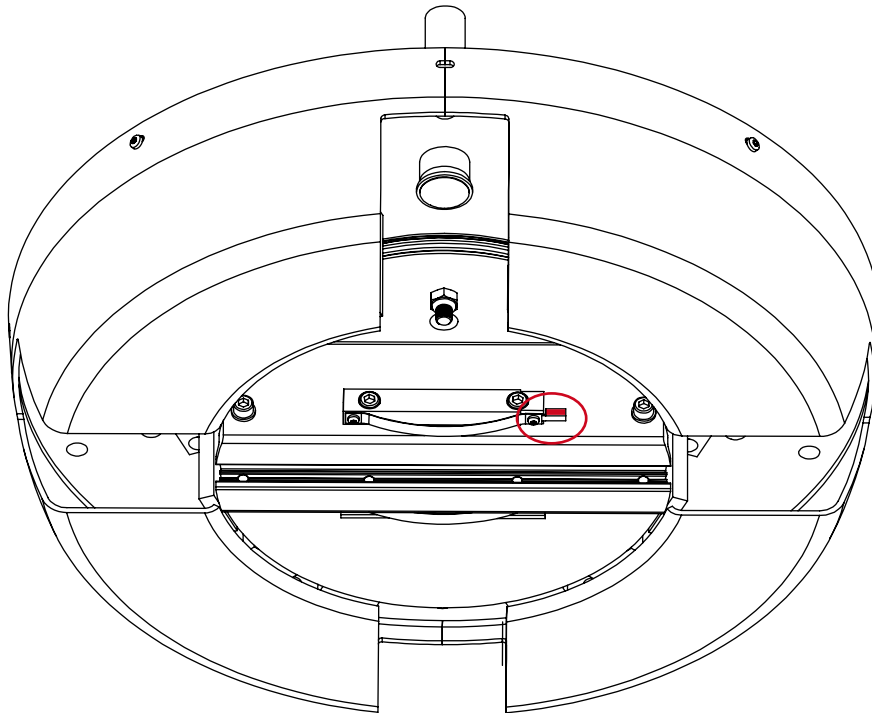

figure 1
- 1) Start by removing the self tapping screw (T10) which holds the ring cable shoe (incl. cable) and the sheet metal plate in place (fig. 1). Leave the cable with the ring cable shoe hanging. Please note that the cable is not visible in the illustrations in this chapter.